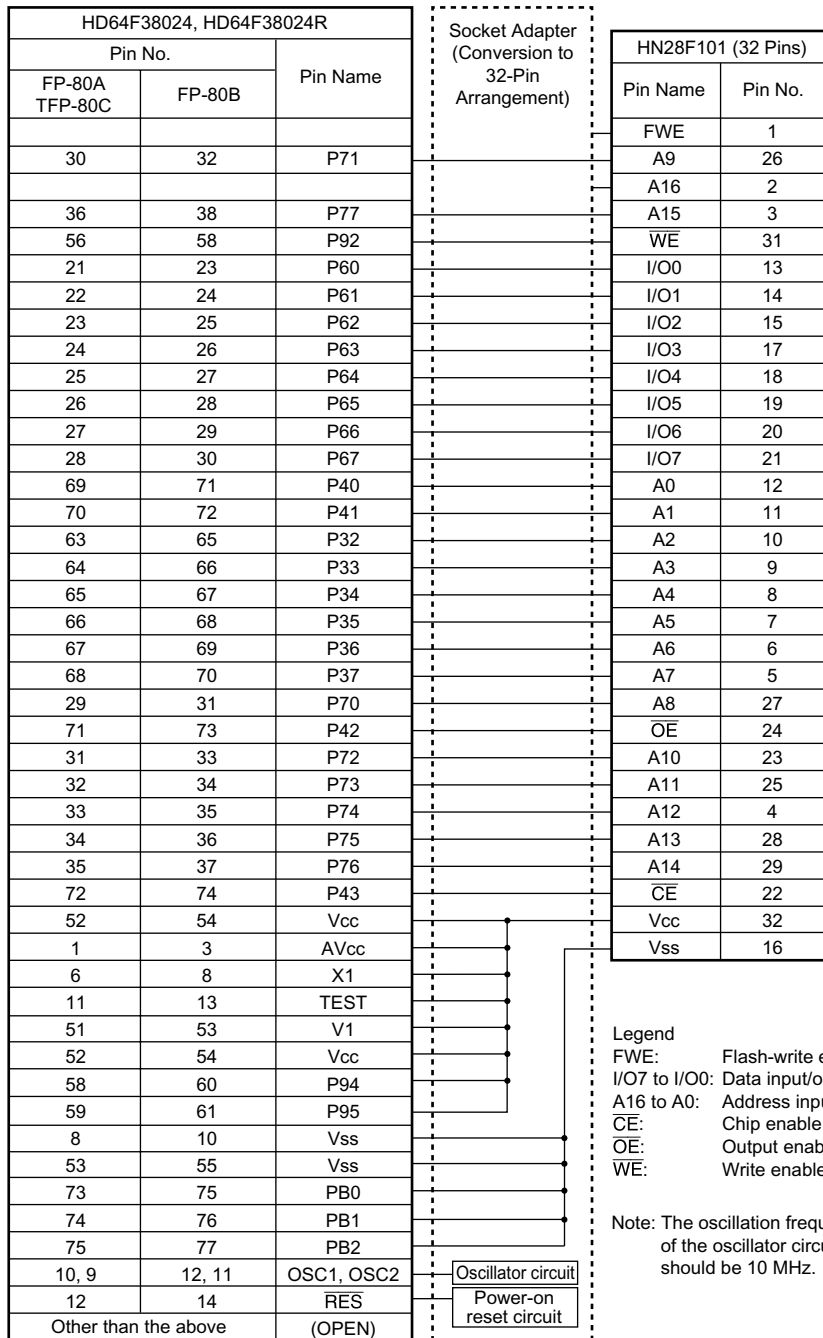

Figure 6.12 Socket Adapter Pin Correspondence Diagram
5. The time during which the P bit is set to 1 is the programming time. Figure 6.12 shows the allowable programming times.
The socket adapter converts the pin allocation of the HD64F38024 and HD64F38024R to that of the discrete flash memory HN28F101. The address of the on-chip flash memory is H'0000 to H'7FFF. Figure 6.12 shows the socket-adapter-pin correspondence diagram.